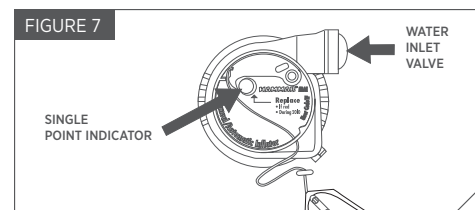

FIGURE 7
7. Now check the new manual/automatic cap as follows (Fig. 7):